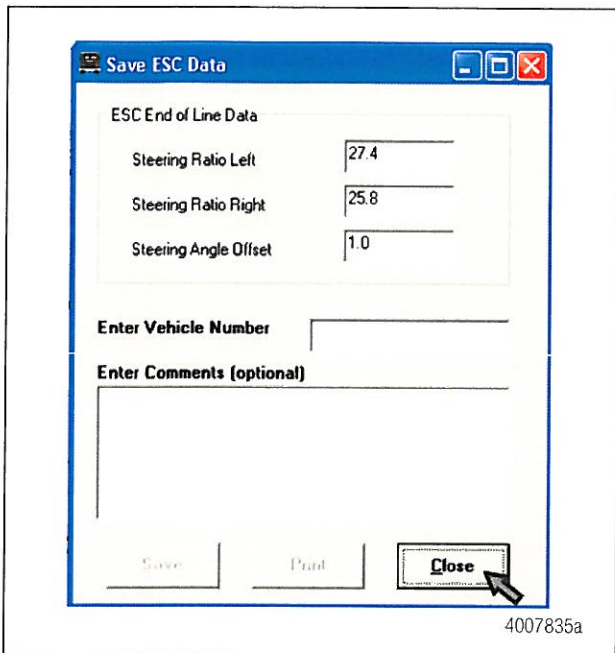

Figure 25
10. A message box will appear with the Steering Ratio and Steering Angle Offset values. Click Close. Figure 25.